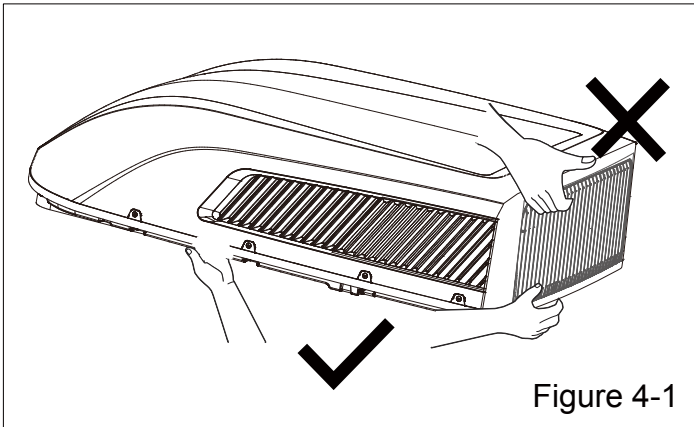

Figure 4-1
1) When taking out the outdoor unit after unpacking, do not lift the air outlet grille at the back of outer case (see Figure 4-1).